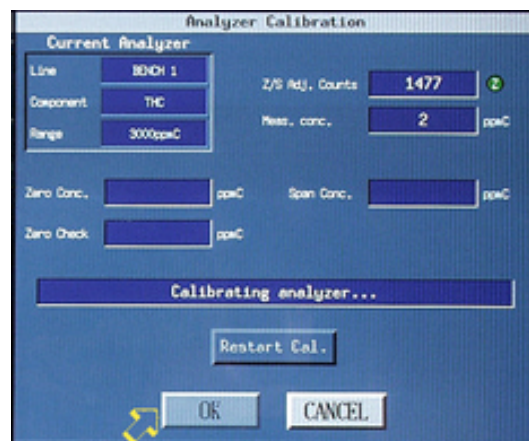

Figure 41
- 151 The “Analyzer Calibration” panel will appear. When completed, “Calibration successfully completed” will appear. Click on “OK.” See the arrow in Figure 41. The "Interference Check Result Reset" panel will appear.